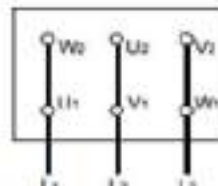

Fig. 7a. Δ - connection
- The mains connection on the tagboard depends on the nominal power of the motor, the power supply and the type of connection. The necessary connection of the bridges in the terminal box is shown in the following (Table 1, and Fig. 7a, 7b, 7c).